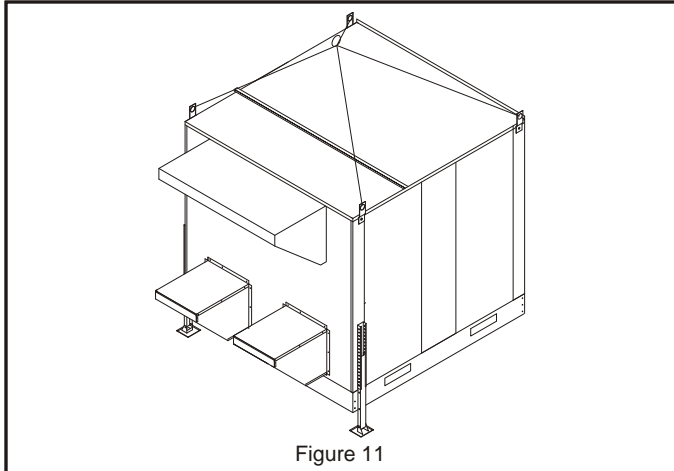

Figure 11
4. Using lifting lugs, raise ERS unit approximately three (3') feet. Remove nut and bolt assembly to slide telescoping part of leg out of guide from the top and reinsert into bottom of guide having attached flat foot under unit. Do not fasten tightly, adjustment will need to be made when ERS is put into position on unit. **See Figure 11 and Figure 12.**